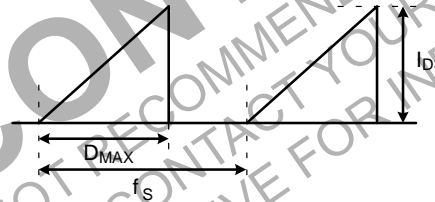

Figure 4. Repetitive Peak Switching Current
- Repetitive peak switching current when the inductive load is assumed: Limited by maximum duty ($D_{MAX} = 0.73$) and junction temperature (see Figure 4).